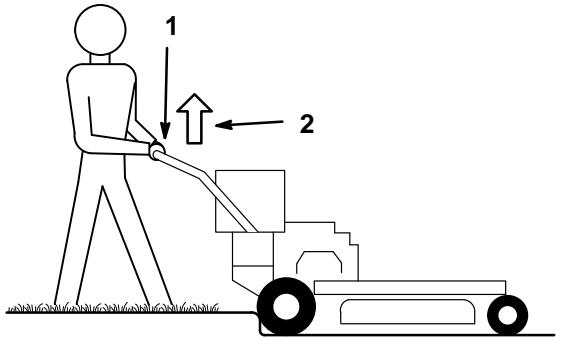

Figure 22
3. Drive machine until drive wheels contact curb (Fig. 22).